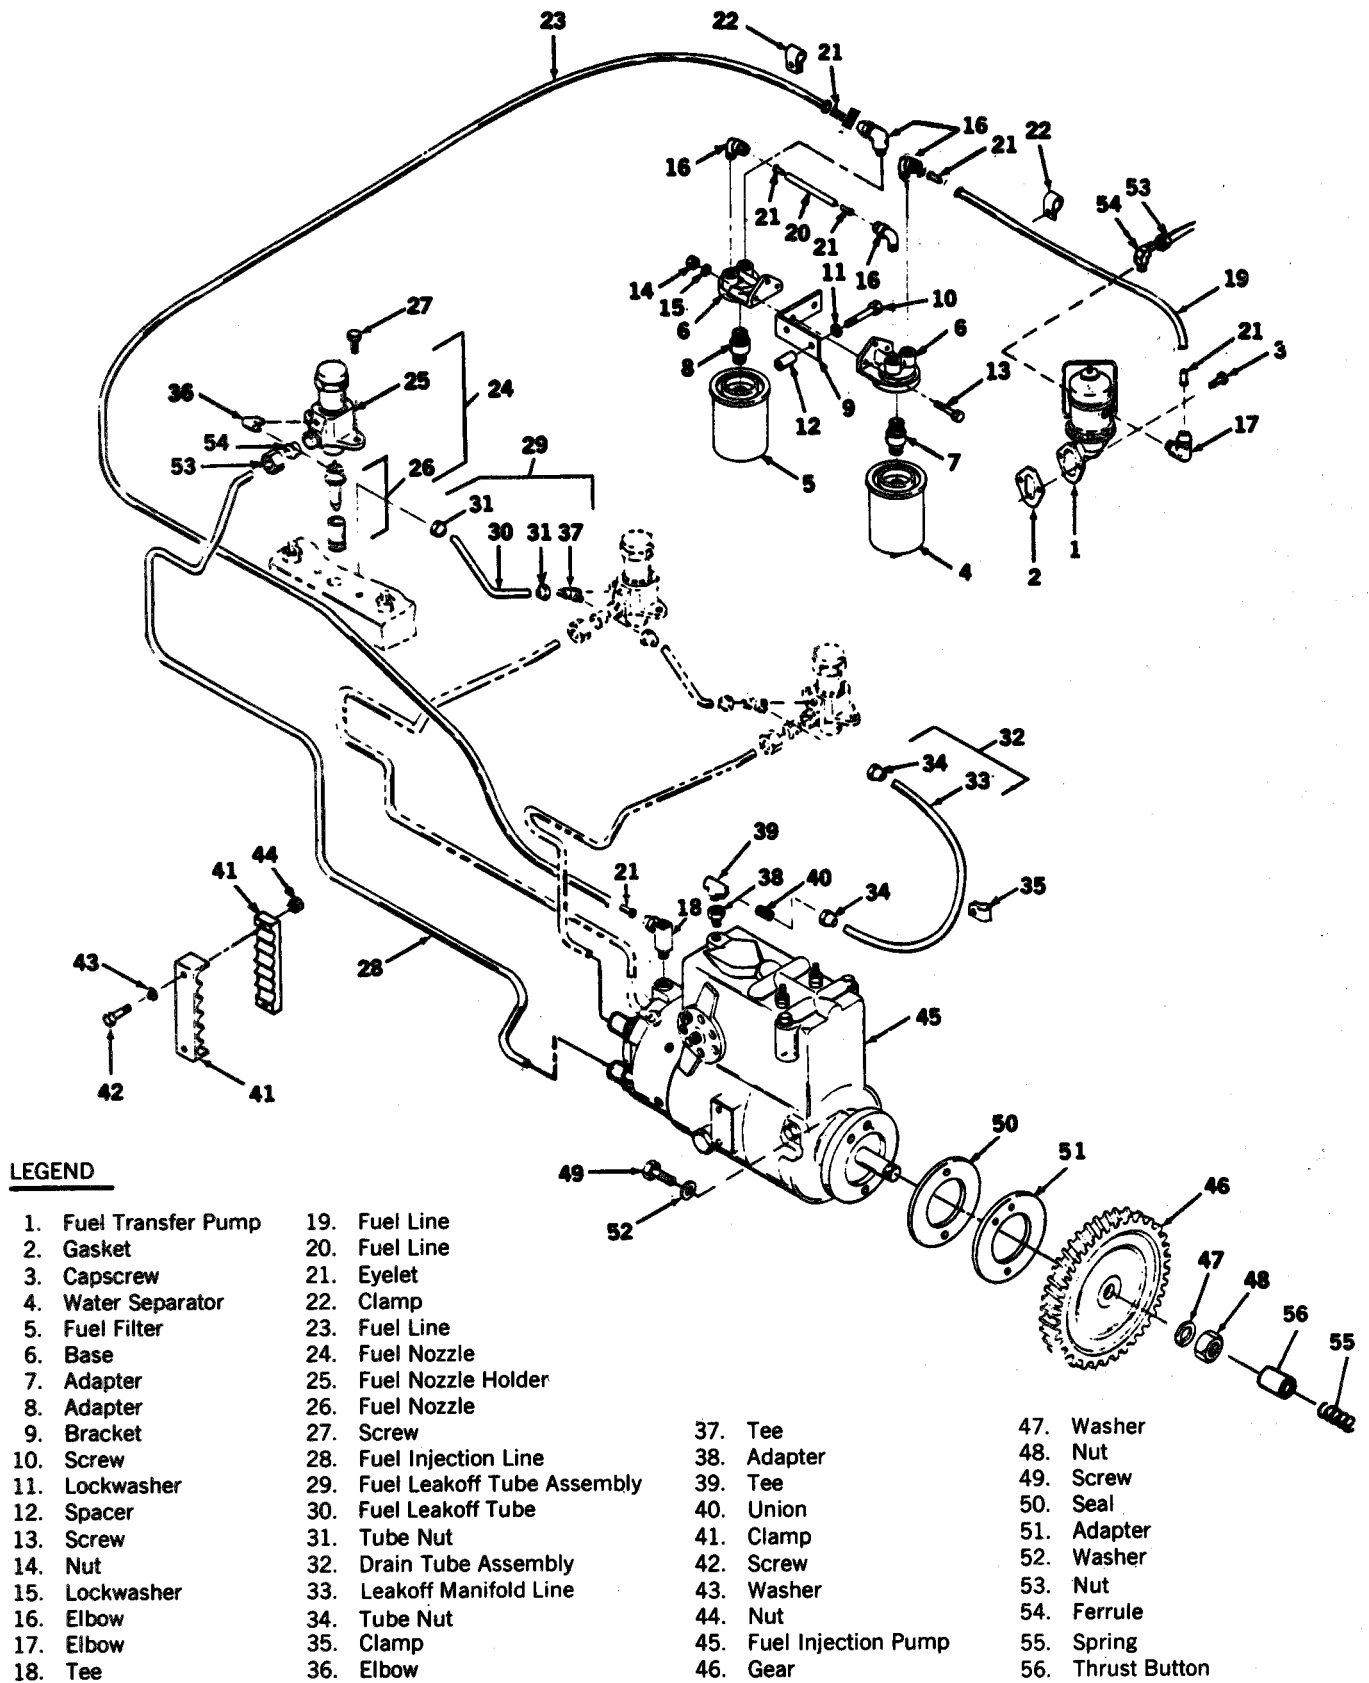

Figure 3-11. Fuel System
b. Disconnect outlet fuel lines at the pump (1, figure 3-11). Be careful not to lose eyelets (21).
c. Remove fuel transfer pump (1) and gasket (2) by removing capscrews (3).
a. Discard gaskets (2, figure 3-11).
a. With new gasket (2, figure 3-11), install fuel transfer pump (1) and secure with two bolts (3).
b. Remove tags and connect fuel lines to fuel transfer pump. Make sure eyelet (21) is in fuel line end.
b. Remove filter (5, figure 3-11) or water separator (4) by turning element counterclockwise.
a. Coat gasket on filter (5, figure 3-11) or water separator (4) with oil MIL-L-2104.
b. Install filter (5) or water separator (4) by hand until gasket makes contact.
e. Disconnect and remove fuel line (23, figure 3-11). Disconnect leakoff manifold line (33). Disconnect fuel return line from pump to fuel tank.
g. Tag and disconnect fuel injection lines (28). After removing each fuel line, reinstall its passage bolts to keep dirt from entering pump.
i. Remove spring (55, figure 3-11) bumper (56), nut (48) and washer (47).
j. Remove screws (49), and washers (52).
d. Inspect fuel lines for cracks, dents, kinks, and other damage. Replace damaged fuel lines. Check for missing eyelets (21, figure 3-11) in the ends of the plastic fuel lines.
c. Insert drive shaft into taper of drive gear (46, figure 3-11) and onto mounting studs.
d. Install screws (49) and washers (52). Tighten only finger tight.
e. Install washer (47), and nut (48) on fuel pump drive shaft. Rotate tapered shaft until timing marks are aligned, and tighten nut to 65 foot-pounds.
k. Connect the leakoff manifold line (33, figure 3-11) to the pump.
l. Connect the fuel line (23) to the pipe tee (18) and the fuel filter. Make sure the eyelets (21) are in place in the line before installation.
b. Disconnect fuel leakoff lines (30, figure 3-11) from each of nozzles. Tag leakoff lines to assure that they'll be assembled to their original nozzles.
c. Remove each fuel injection nozzle and holder assembly from the cylinder head by removing two bolts (27). Tag each nozzle and holder assembly to identify its position in cylinder head.
- b. Clean fuel injection nozzles (26, figure 3-11) in clean diesel fuel. Dry thoroughly with filtered, dry compressed air. Blow air through fuel lines to assure that they are clear and unobstructed.
- d. Visually inspect fuel nozzle and holder assemblies (24) for damaged threads, cracks, or other visible signs of damage. Replace a damaged fuel nozzle and holder assembly.
- a. Insert assembled fuel nozzle and holder (24, figure 3-11) into the cylinder head bore from which it was removed.
- b. Install two securing bolts (27) for each nozzle and holder assembly. Tighten bolts evenly to assure proper alignment of the fuel nozzle and holder assembly. Uneven tightening of the securing bolts may distort nozzle holder or nozzle tip. This will cause engine misfiring or possible destruction of the complete assembly. Use a torque wrench to progressively tighten bolts from 25 to 30 foot-pounds to ensure equal tension on both sides of nozzle and holder assembly.
- c. Install and connect fuel lines (28). Tighten the fuel line nuts securely but not excessively. If new fuel lines are installed, install new ferrules and nuts on lines during installation.